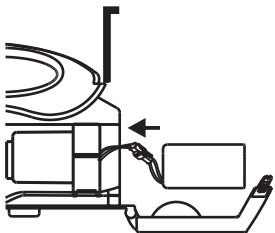

Fig. 9
- Connect a new rechargeable battery pack to the connecting cable. Slide the battery pack back into the slot carefully. Insert the interior steel plate downwards, See Fig. 9 & 10.